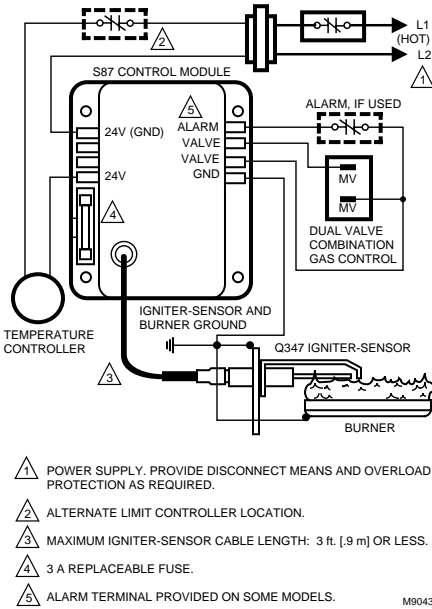

Fig. 7. Typical wiring connections for 24 volt control in S87 Direct Ignition System.
2. Connect the control circuit to the gas control terminals. See Fig. 7 and 8.